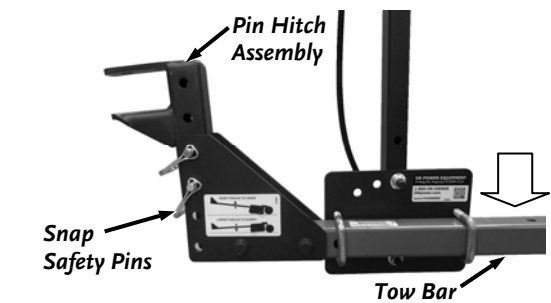

Figure 35
- Adjust the Tow Bar to the lowest position for most aggressive scarifying (Figure 35). See "Adjusting the Mold Board" for other Mold Board settings.